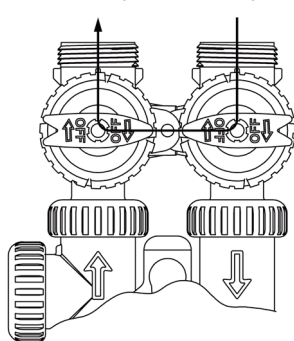

Figure 15:
3. **Diagnostic Position:** The inlet handle points in the direction of flow and the outlet handle points to the center of bypass valve, system water pressure is allowed to the control valve and the plumbing system while not allowing water to exit from the control valve to the plumbing. (See Figure 15)